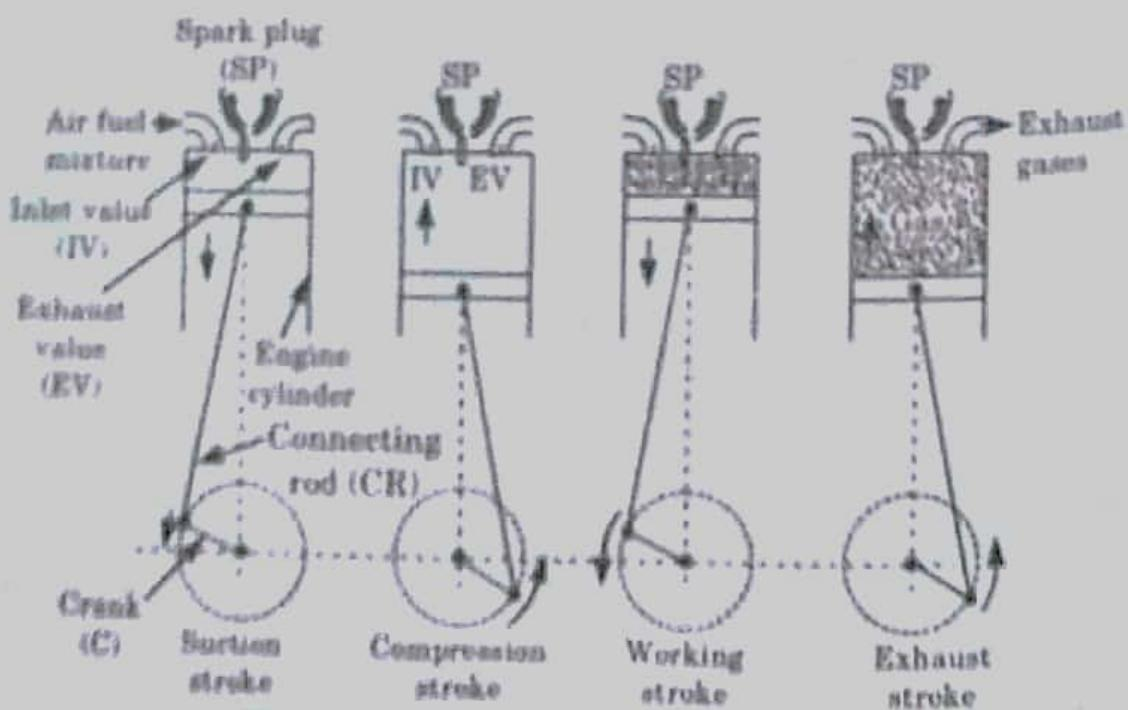

Fig. 1.23.1. Four stroke Otto cycle engine.
1. Suction stroke (Fig. 1.23.1) starts when the piston is at top dead centre position and about to move toward bottom dead centre.